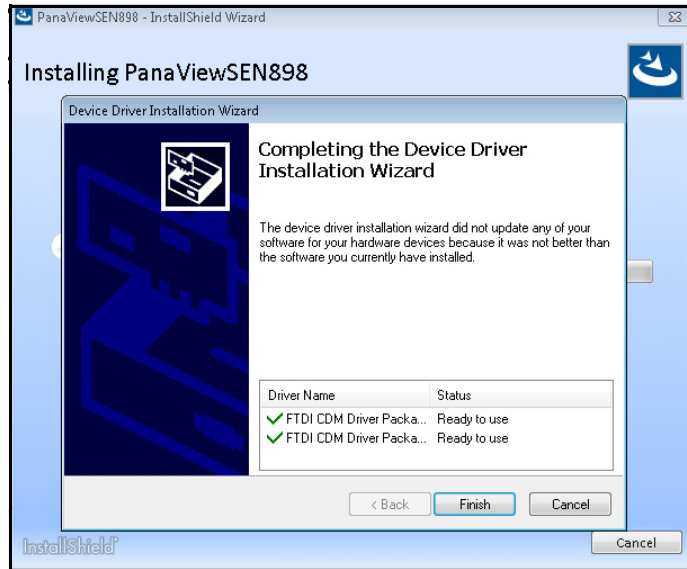

Figure 9: Successful Device Driver Installation Screen
7. After Successful installation of FTDI CDM drivers, the dialog box shown in Figure 9 below opens. Click [Finish] to continue with PanaView installation.